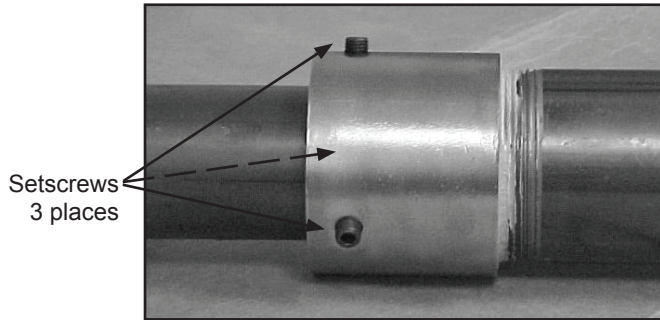

Figure 7: Install Setscrews
18. Once the length is correct, lock the STP length by tightening all three coupling setscrews. Tighten the setscrews finger-tight, making sure they come into contact with the pipe (Figure 7).